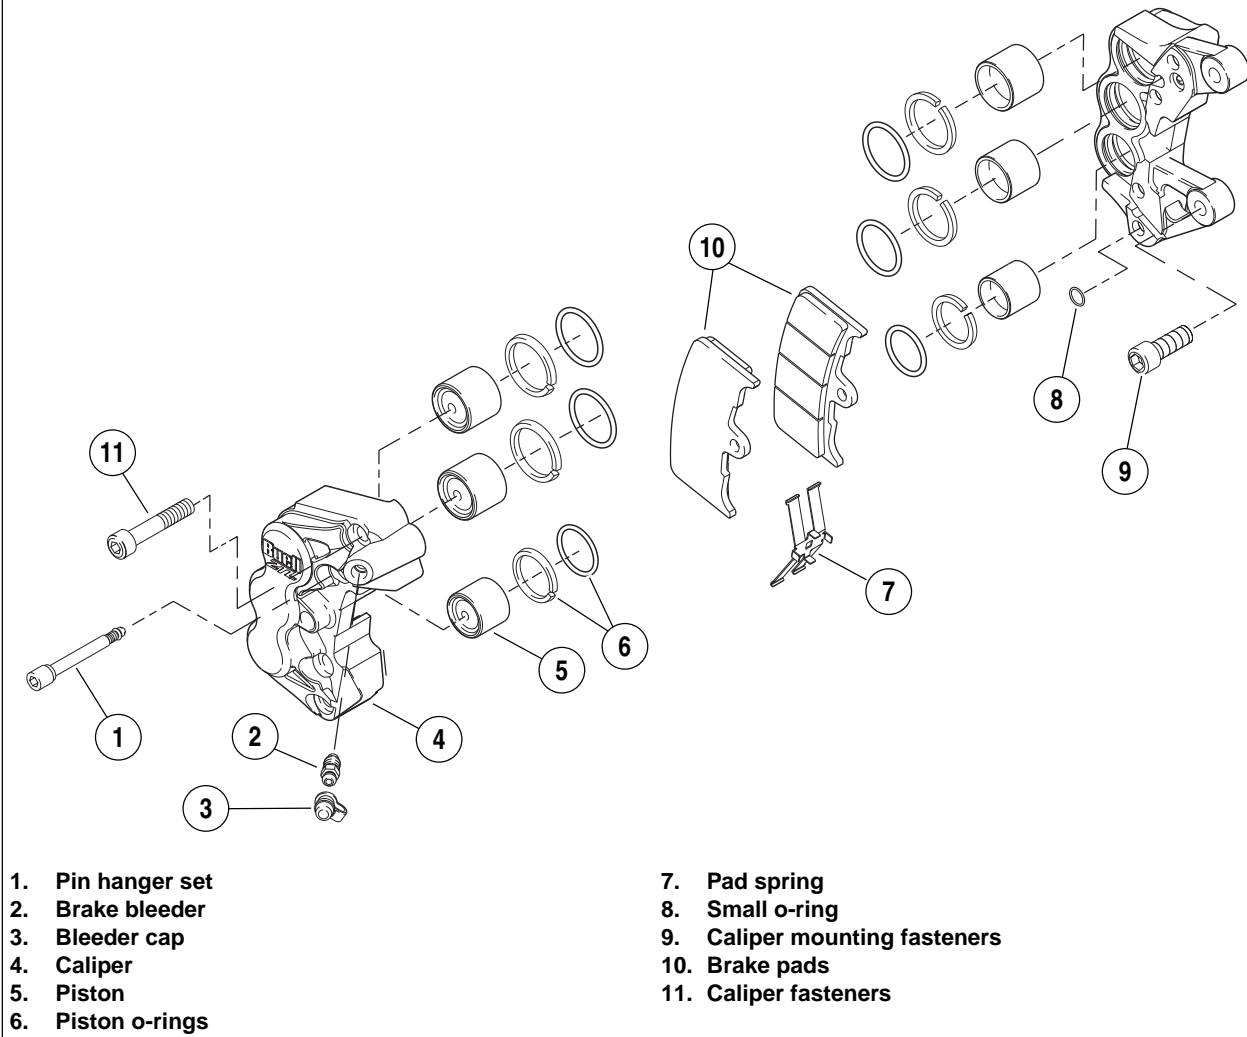

Figure 2-44. Front Caliper Assembly
2. Split caliper by removing caliper fasteners (3).
3. See Figure 2-44. Remove and discard o-rings (8).
5. See Figure 2-44. Remove and discard top and bottom piston o-rings (6).
1. See Figure 2-44. Install pistons and o-rings.
- a. Lubricate **new** o-rings (6), pistons (5), and caliper piston bores with **D.O.T. 4 BRAKE FLUID**.
- b. Install two **new** o-rings (6) in grooves of each piston bore.
- c. Install pistons (5) in each piston bore.
2. Install **new** o-rings (8) between caliper halves.
3. Clamp caliper together with caliper fasteners (11) and tighten to 15-19 ft-lbs (20-26 Nm).
1. See Figure 2-44. Install brake pads (10).
2. Install pin hanger set (1) and tighten to 11-14 ft-lbs (15-19 Nm).
3. Rotate front fork counterclockwise and install caliper on caliper mount. Using LOCTITE 272, tighten fasteners (9) to 35-37 ft-lbs (47-50 Nm).